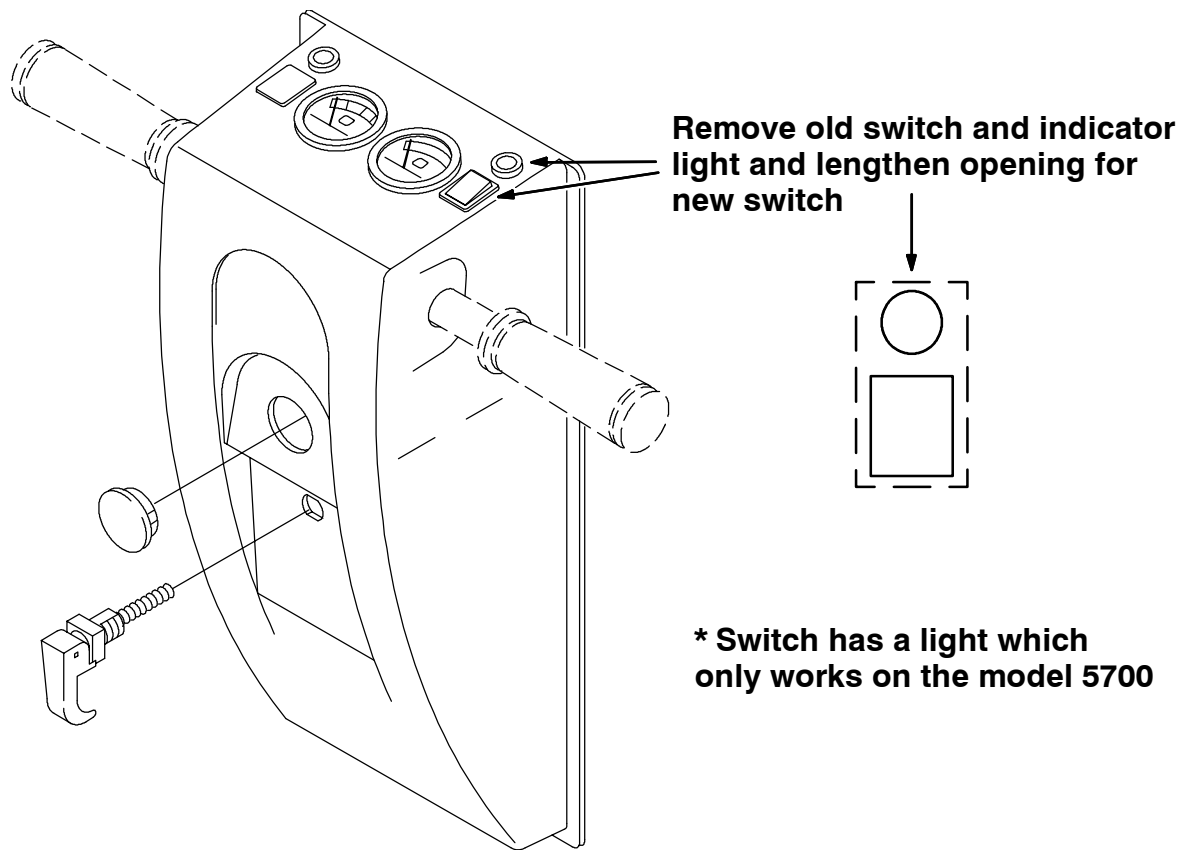

FIG. 4 - 5700 Switch location
3. Disconnect the old switch from the wire harness and remove the switch(es) and indicator lights from the control panel. (Refer to FIG. 4 thru 9)
4. Using a saw, file or cutting tool, lengthen the switch opening to 1.734" long or longer if using the switch mounting plate. (Refer to FIG. 4 thru 9)